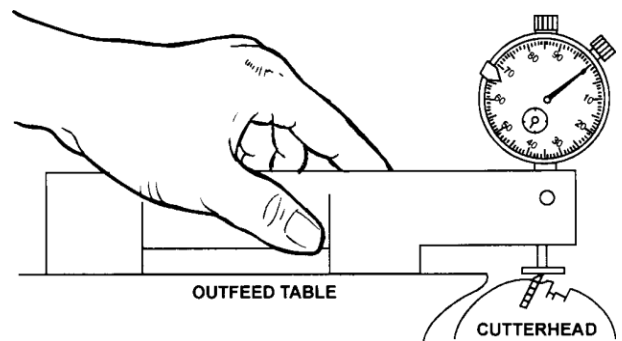

Fig. 16
13. Now place it on the outfeed table to the rear of the cutterhead with the flat indicator point over the cutterhead (Figure 16).